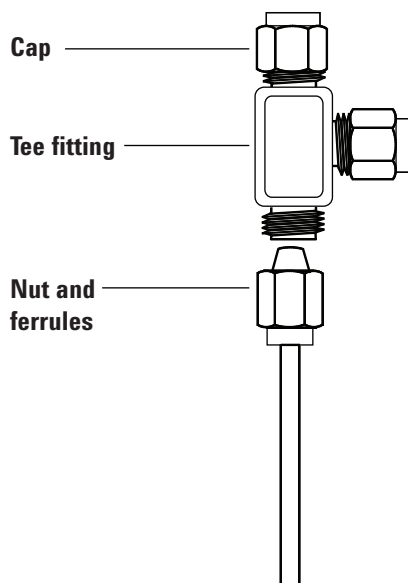

Figure 21. Swagelok tee
- 1 Cut the tubing where you want to install the Tee. Connect the tubing and Tee with a Swagelok fitting. See **Figure 21**.